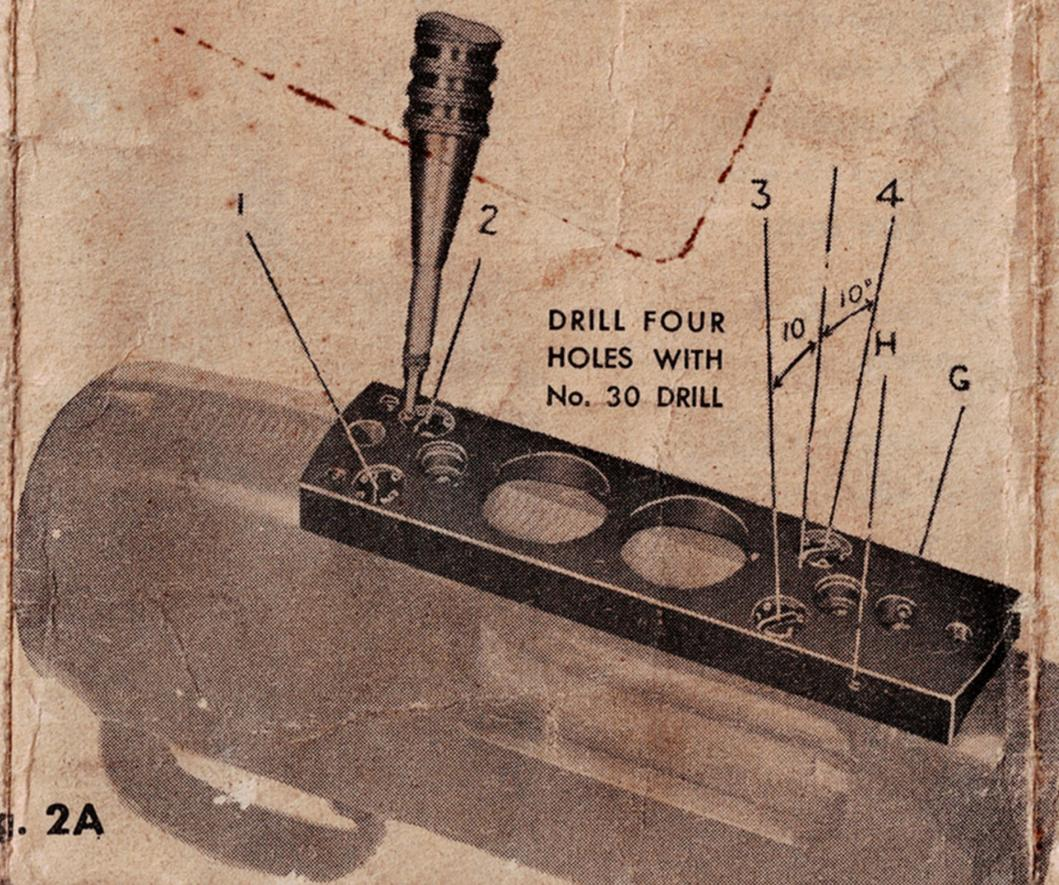

Fig. 2A
3. Align and fasten mounting base centrally on top of receiver of gun with padded parallel clamp. Mounting base should be flush with end of receiver on Automatics, the side locking screws G & H toward barrel. Pump guns to mount approximately as per figure 2A so that the 8-36 mounting screws clear internal mechanism.
7. Dip four 8-36 fillister head screws in "Clyptol" before screwing them into receiver and base, tightening them well and locking heads with centerpunch as shown in figure 2A.